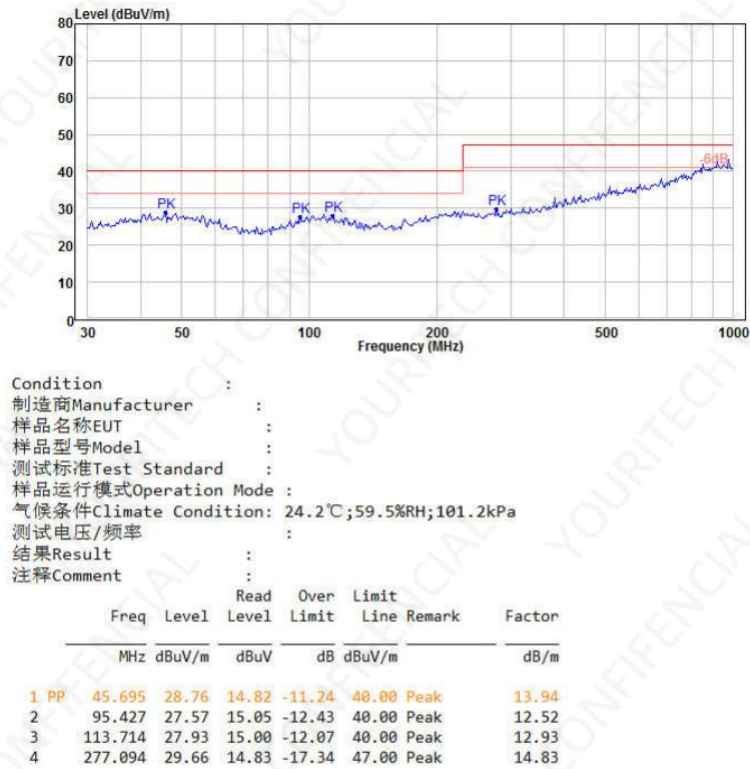

Figure 7-6: Horizontal direction of the radiation test
1. Radiation test horizontal test data, as shown in Figure 7-6.